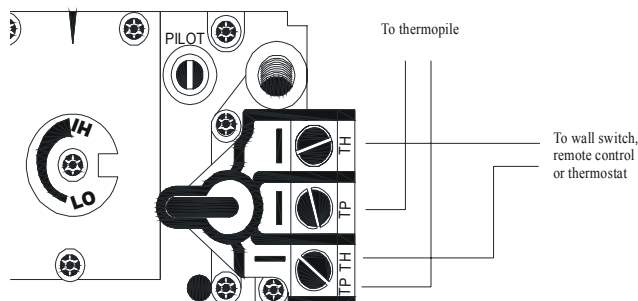

Figure 17 – Gas Valve Connections
2. Connect the wires to the gas valve (see figure 17 & 18).